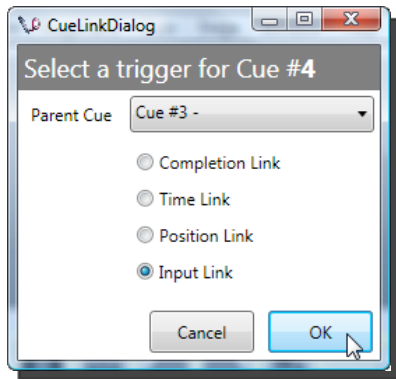

Figure 247
2. Select the **Parent Cue** from the drop-down list and select **Input Link**, then press **OK** (Figure 247).